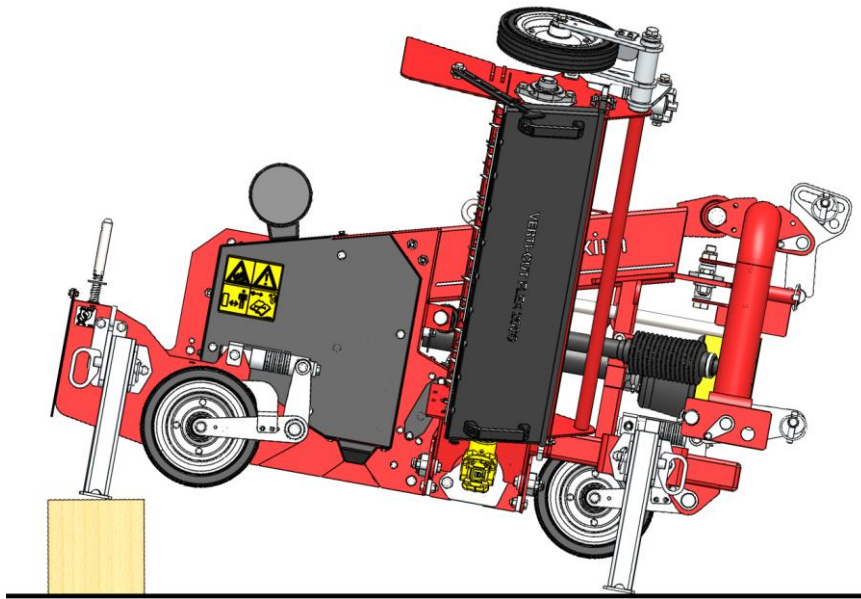

Fig. 18
2. Whilst disconnecting, place blocks under the rear support legs (see Fig. 18).